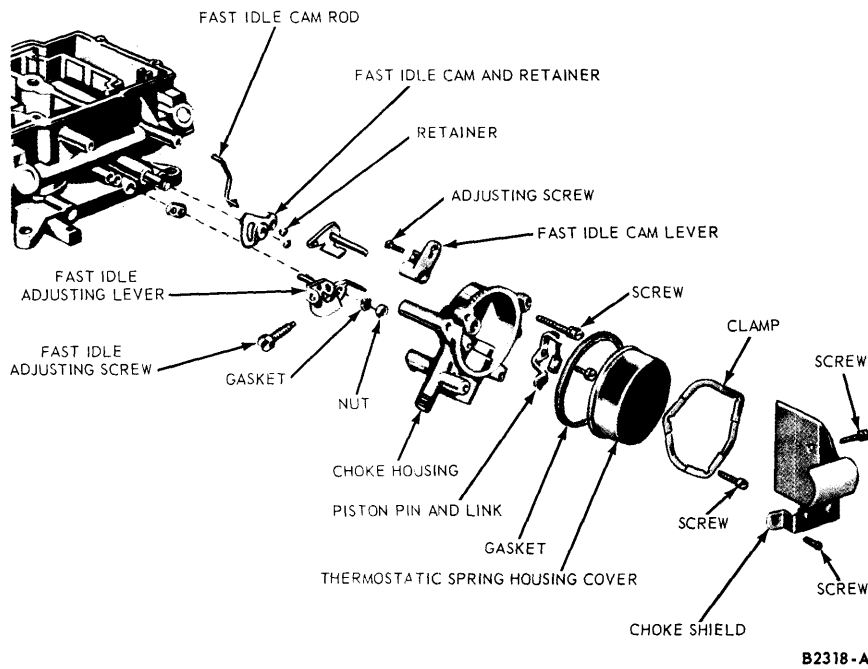
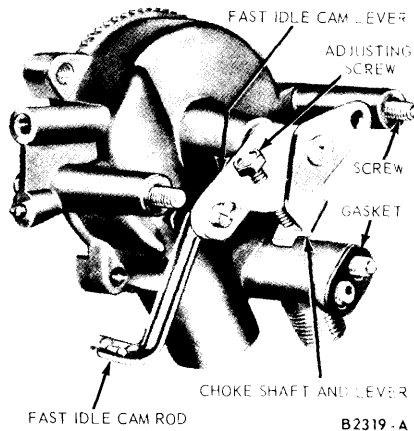

FIG. 27—Choke Housing Assembly
FIG. 28—Choke Linkage Installation
1. If the choke piston and link was disassembled, install the choke piston on the choke thermostatic spring lever link and install the retaining pin (Fig. 27).
2. Position the fast idle cam lever on the thermostatic choke shaft and lever assembly (Figs. 27 and 28). **The bottom of the fast idle lever adjusting screw must rest against the tang on the choke shaft lever.** Insert the choke shaft assembly into the rear of the choke housing. Position the choke shaft lever so that the hole in the lever is to the left side of the choke housing (Fig. 28).
4. Install the fast idle cam rod on the fast idle cam lever (Fig. 28). Place the fast idle cam on the fast idle cam rod and install the retainer. Place the choke housing vacuum pick-up port to main body gasket on the choke housing flange. Position the choke housing on the main body, and at the same time, install the fast idle cam on the hub of the main body. Position the gasket